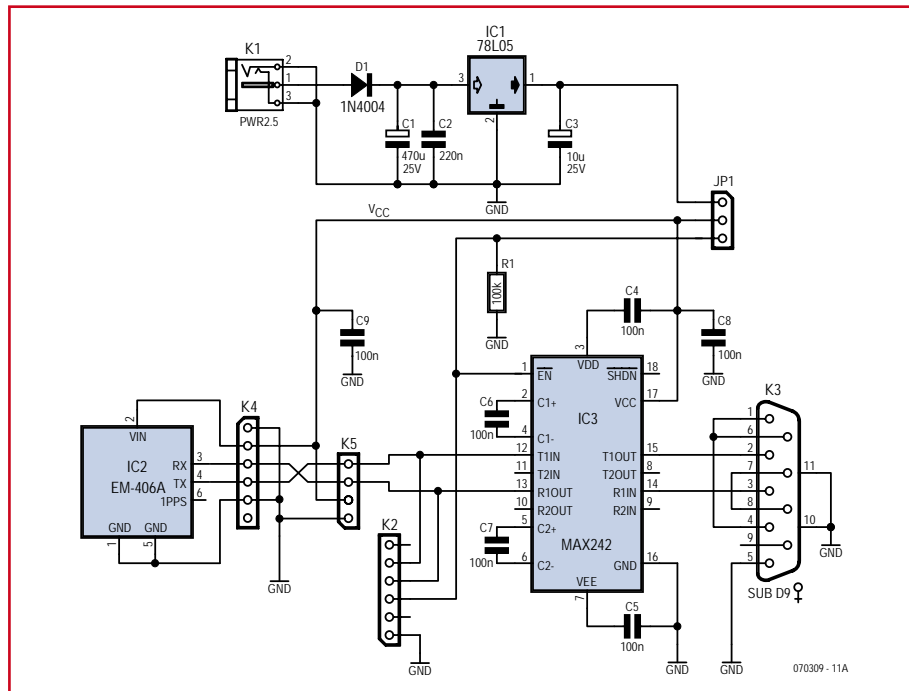
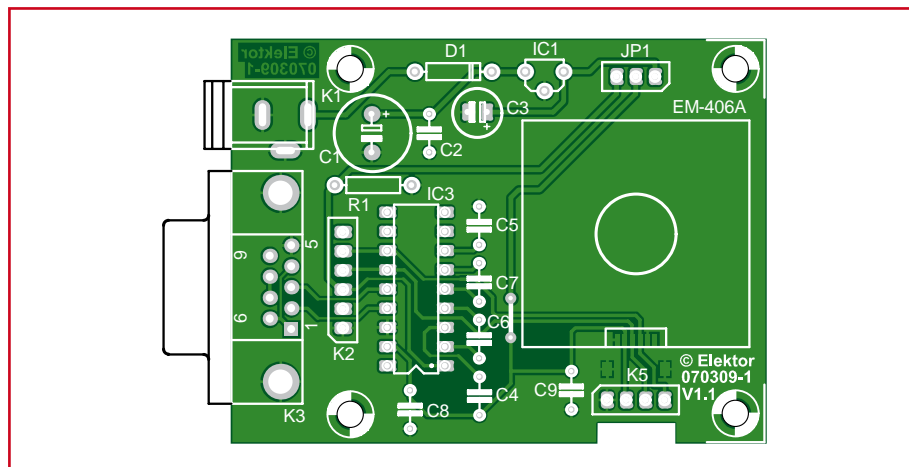

Figure 1. Circuit diagram of GPS/PC adaptor.
Figure 2. PCB component overlay for GPS/PC adaptor.
**Figure 1** gives the circuit diagram of this interface, which shows a certain originality, as it can be powered either from a PC's USB port or by an exter-
in **Figure 2**. To minimize wiring, it carries all the components in **Figure 1**. The connector on the GPS link cable is really tiny and its female socket (K4) very difficult to source (see component list). Also, it is tricky to solder on the track side of the PCB. To avoid this problem, we've also made provision for four pins on the board on a 2.54-mm (0.1-inch) pitch (K5) which can be used to make the link with the receiver. In this case, it will be necessary to cut the plug off the receiver's little cable to free off the conductors so they can be fitted with a 2.54 mm-pitch SIL female connector, cut down to a length of four contacts, which will mate with